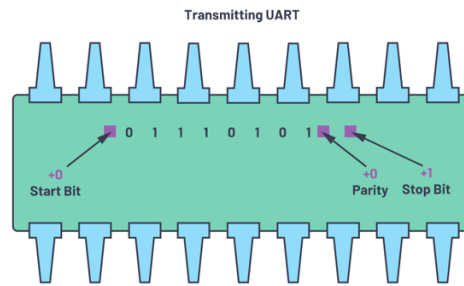

Figure-3: UART data frame at the Tx side
- Second: The transmitting UART adds the start bit, parity bit, and the stop bit(s) to the data frame (Figure-3).